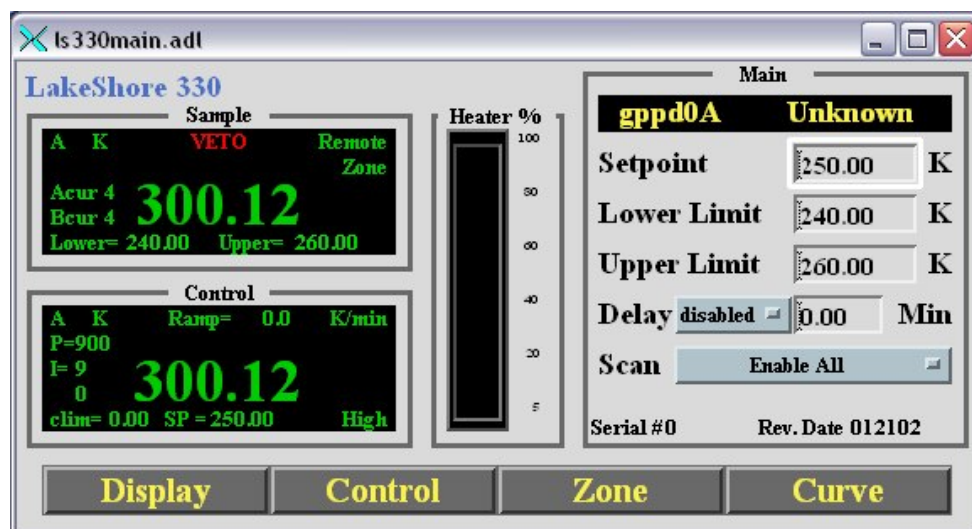

Figure 24: LS 330 Main Display
2. The process opens with the "main" interface window. (See Figure 24 on page 17) If the window was open and a different display is seen, click on the **Main** button.